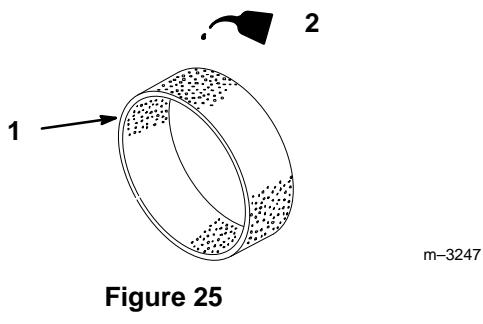

Figure 25
3. Put one or two ounces of oil on the element (Fig. 25). Squeeze the element to distribute the oil.